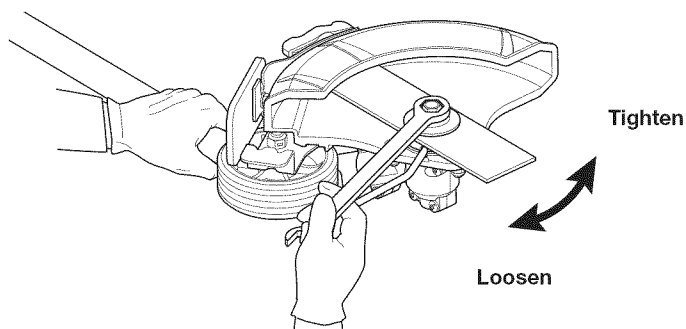

Fig. 9
3. While holding the locking rod, loosen the lock nut by turning it **clockwise** with a 13 mm wrench (Fig. 9).
8. While holding the locking rod, tighten the lock nut by turning it **counterclockwise** (Fig. 9). Make sure that the edger blade stays flat and centered against the output shaft while tightening the lock nut.